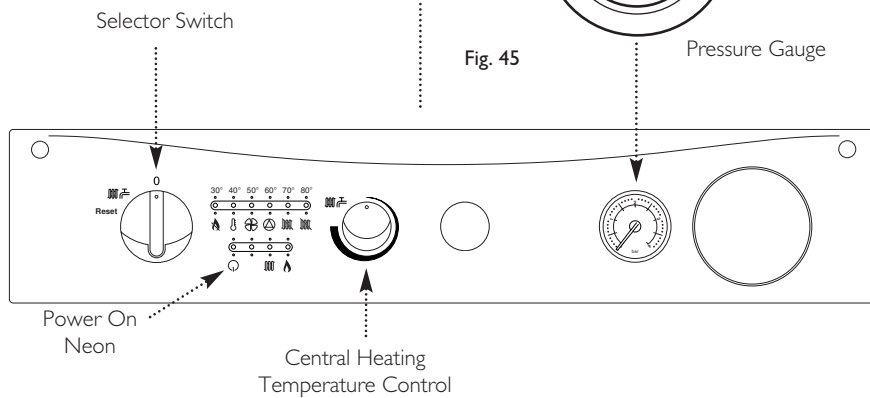

Fig. 46
8. If at any time during commissioning it is required to terminate a particular cycle, e.g. the pump overrun period, turn the selector to the Off position and then back to the On position (開) (Fig. 46).